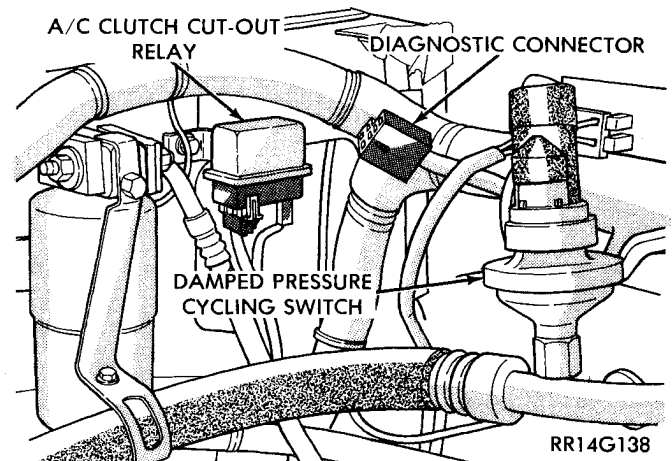

Fig. 21—Diagnostic Connector
(1) Connect Diagnostic Tool to the diagnostic connector located in the engine compartment near the SMEC (Fig. 21).
(2) Start the engine if possible, cycle the transmission selector and the A/C switch if applicable. Shut off the engine.
(3) Turn the ignition switch on, off, on, off, on within 5 seconds. Record all the diagnostic codes shown on the Diagnostic Tool, observe the check engine lamp on the instrument panel the lamp should light for 3 seconds then go out (bulb check).